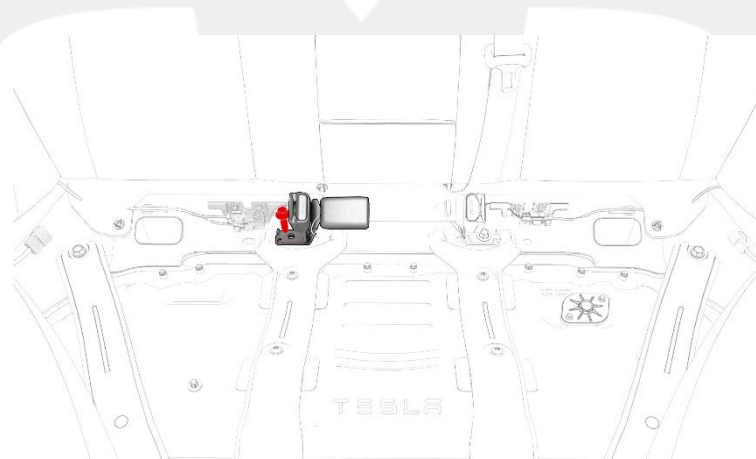

Figure 1 (Center 2nd row buckle and bolt)
2. Remove and discard the bolt that attaches the center 2nd row buckle to the body, and then set the buckle aside (Figure 1).
10. Install the center 2nd row buckle, and install a new bolt (torque 40 Nm) (Figure 1).